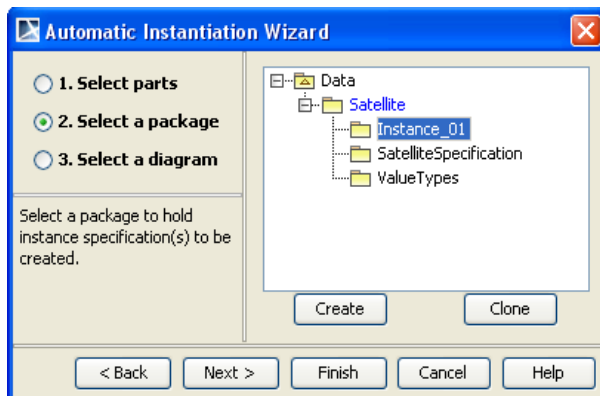

Figure 3.7b Automatic Instance Generation, Part 2
- iii. Click Create and create the Instance_01 package in the Satellite package (see Figure 3.7b)